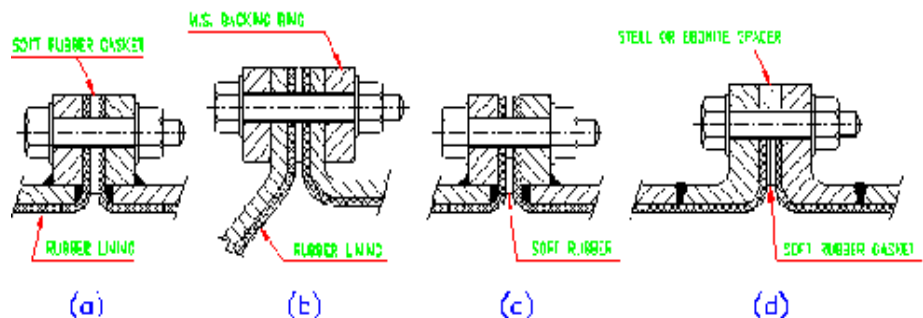

FIG.11
- 5-1 All branches and outlets of tank should be equipped with flange to allow the rubber lining to over flange face. Typical flanged joints are illustrated in Fig.11.
- 5-3 Normally, soft rubber gaskets should be interposed between lined flanges. If the flange faces have to withstand very high loads, the flanges joint shown in Fig. 11(d) should be used.